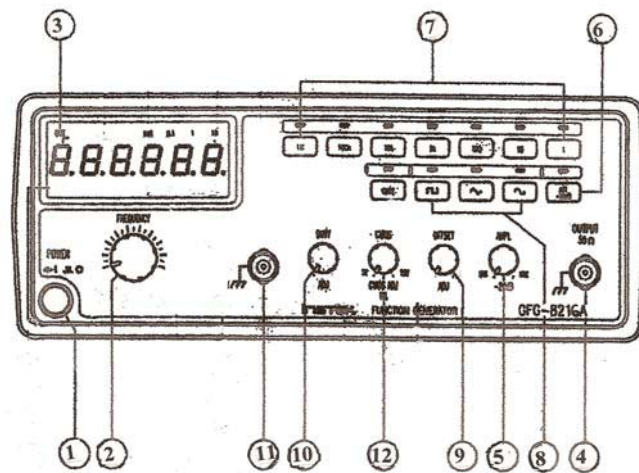

Figure A5: Front panel of Function Generator
**The Instek GFG-8216A Function Generator:** The front panel of the GFG8216A FG is shown in Figure A5, followed by brief descriptions of various controls. The FG also has two other input connectors on the rear panel, which are not used for this lab. [The front panel button labelled ‘Gate’ operates only when the ‘counter’ input on the rear panel is used, and is not described in the explanation of terms following Figure A5]